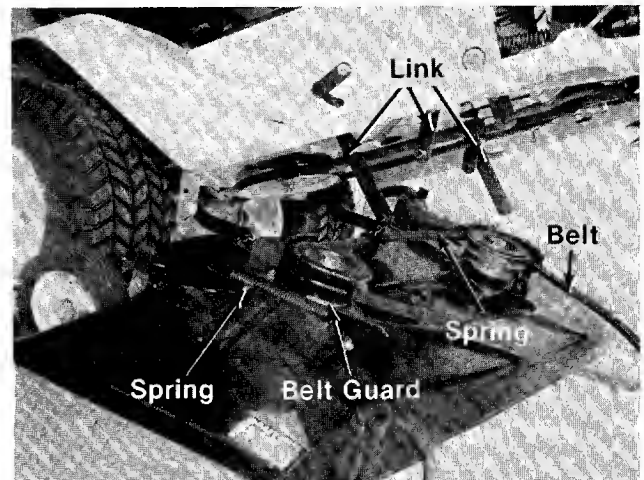

FIGURE 39.
5. Remove the two deck tension springs. See figure 39.
6. Remove the cotter pins holding the four front deck links. The deck can now be tipped forward. See figure 39.
6. Unhook the tension springs. See figure 39.